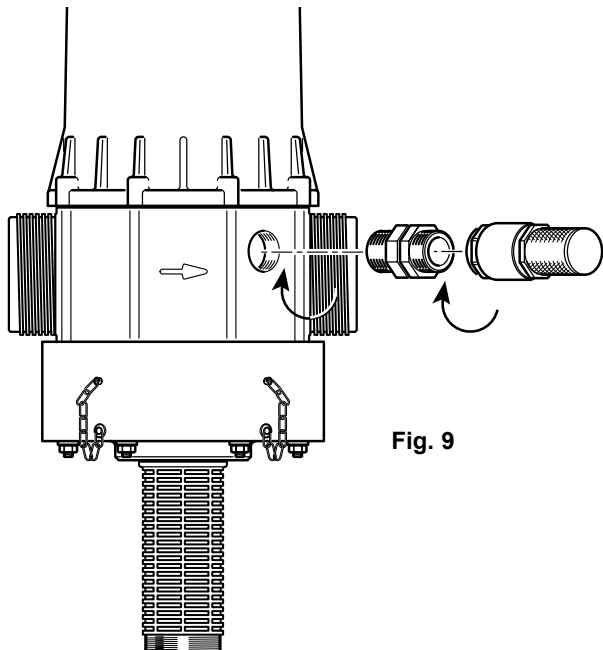

Fig. 9
- This automatically recreates normal atmospheric pressure in the line (**Fig. 9**)*.